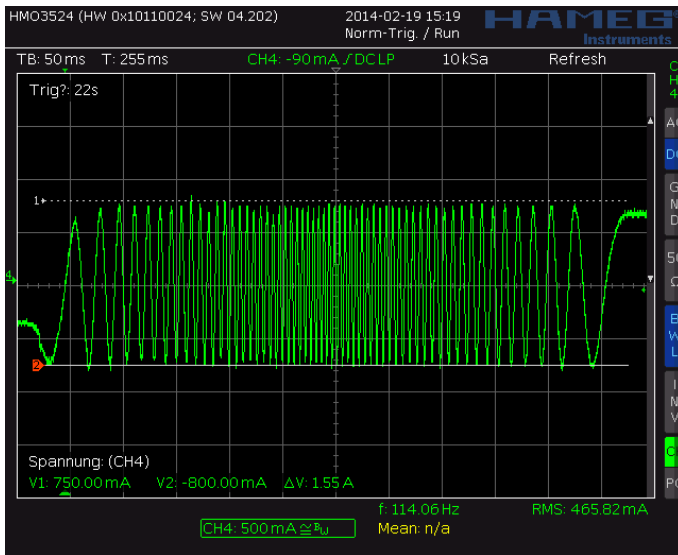
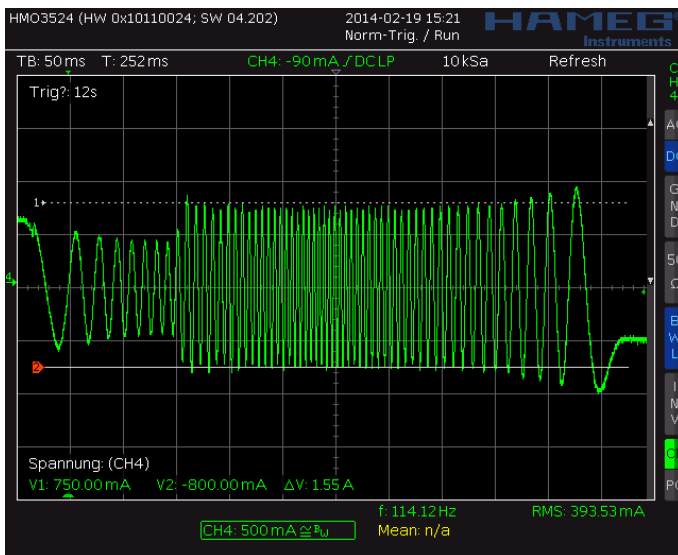
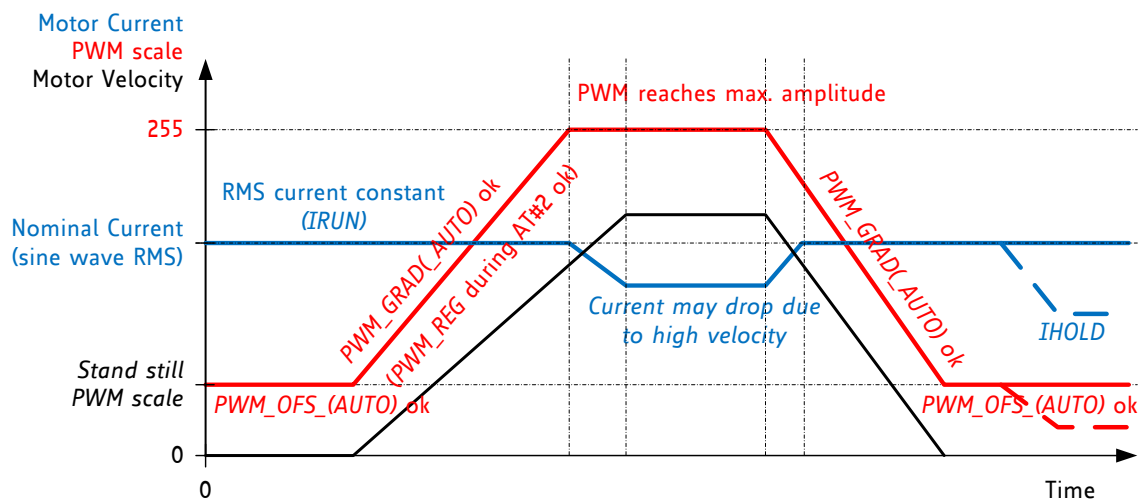

Figure 7.3 Scope shot: good setting for PWM\_REG
Figure 7.4 Scope shot: too small setting for PWM\_REG during AT#2
Figure 7.5 Successfully determined PWM\_GRAD(AUTO) and PWM\_OFS(AUTO)
In stealthChop voltage PWM mode, the autoscaling function ( $pwm\_autoscale = 1$ ,  $pwm\_auto\_grad = 1$ ) regulates the motor current to the desired current setting. Automatic scaling is used as part of the automatic tuning process (AT), and for subsequent tracking of changes within the motor parameters. The driver measures the motor current during the chopper on time and uses a proportional regulator to regulate  $PWM\_SCALE\_AUTO$  in order match the motor current to the target current.  $PWM\_REG$  is the proportionality coefficient for this regulator. Basically, the proportionality coefficient should be as small as possible in order to get a stable and soft regulation behavior, but it must be large enough to allow the driver to quickly react to changes caused by variation of the motor target current (e.g. change of VREF). During initial tuning step AT#2,  $PWM\_REG$  also compensates for the change of motor velocity. Therefore, a high acceleration during AT#2 will require a higher setting of  $PWM\_REG$ . With careful selection of homing velocity and acceleration, a minimum setting of the regulation gradient often is sufficient ( $PWM\_REG=1$ ).  $PWM\_REG$  setting should be optimized for the fastest required acceleration and deceleration ramp (compare Figure 7.3 and Figure 7.4). The quality of the setting  $PWM\_REG$  in phase AT#2 and the finished automatic tuning procedure (or non-automatic settings for  $PWM\_OFS$  and  $PWM\_GRAD$ ) can be examined when monitoring motor current during an acceleration phase Figure 7.5.